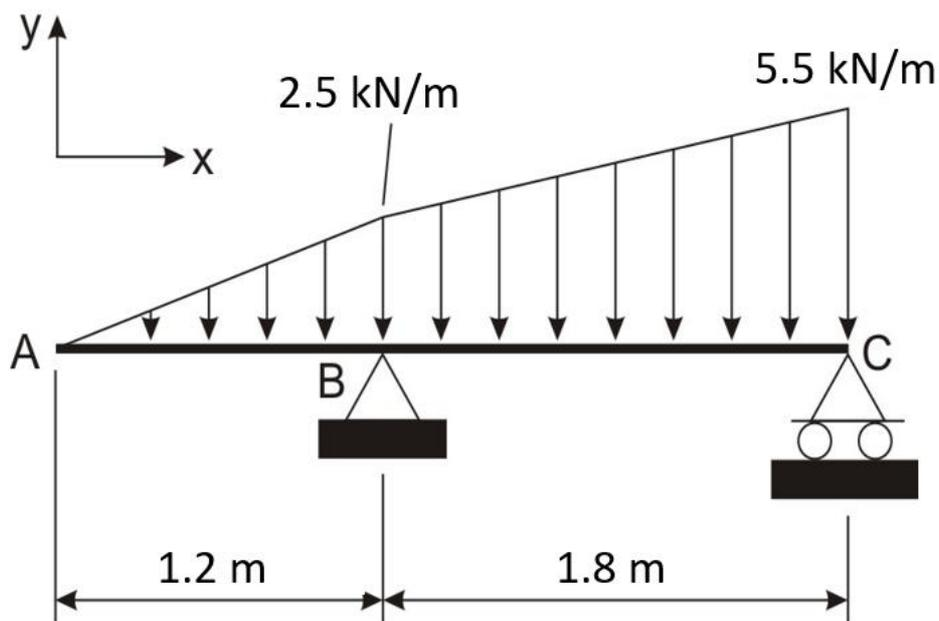

Figure Q3: Beam loading
3. Part of a support structure can be considered as an overhanging, simply supported beam which is loaded as shown in Figure Q3.
- (d) Derive expressions, in terms of the distance x , for the shear force (V) and bending moment (M) acting over the beam. [13 marks]